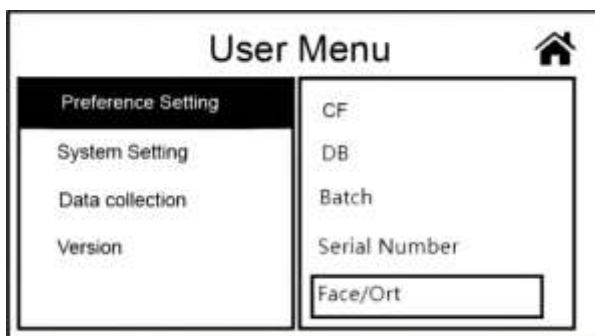
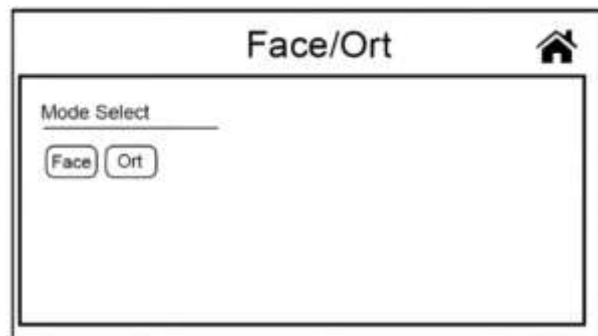

Figure 63
Figure 64
2) As in Figure 63, touch the fifth item “Face/Ort” to enter the Face/Ort function setting interface, as in Figure 64. Users can set the switch of Face and Ort function in this interface.